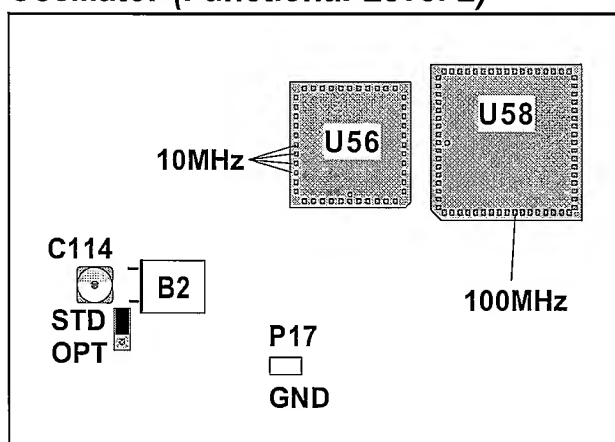

Figure 5-9 Test points and jumper for testing the oscillators.
- Be sure that jumper J12 are in the STD position, see Figure 5-9.
- Be sure that jumper J12 are in the OPT position, see Figure 5-9.